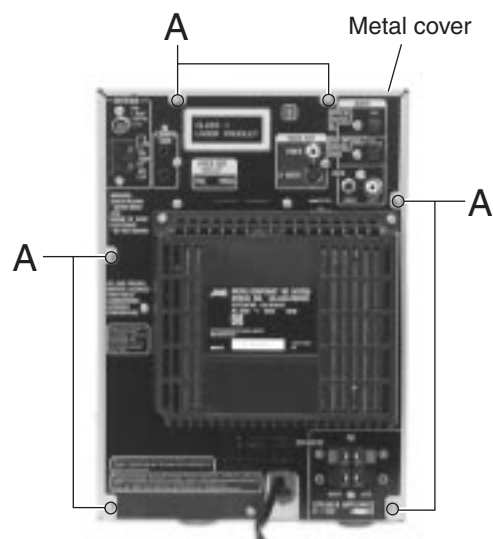

Fig.1
■ Removing the metal cover (See Fig.1~3)